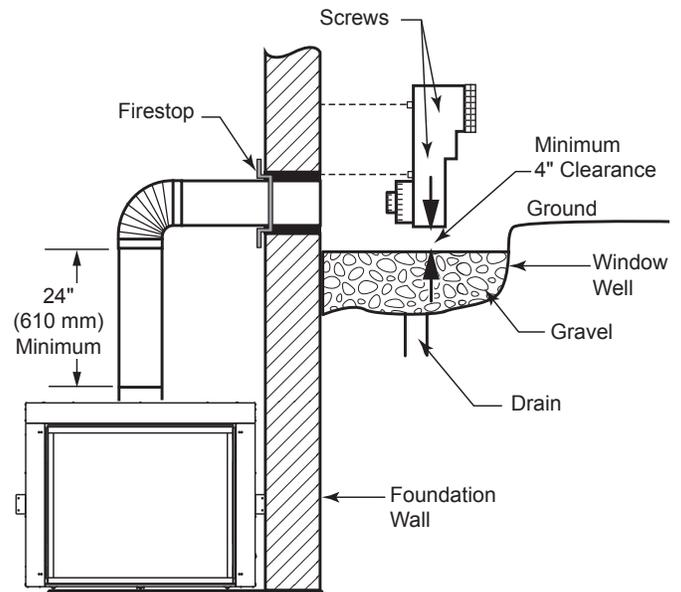

Figure 18 - Below Grade Installation
2. Remove soil to a depth of approximately 16" below base of snorkel. Install drain pipe. Install window well (not supplied). Refill hole with 12" of coarse gravel leaving a clearance of approximately 4" below snorkel. Figure 18
7. Level the soil so as to maintain a 4" clearance below snorkel. Figure 18